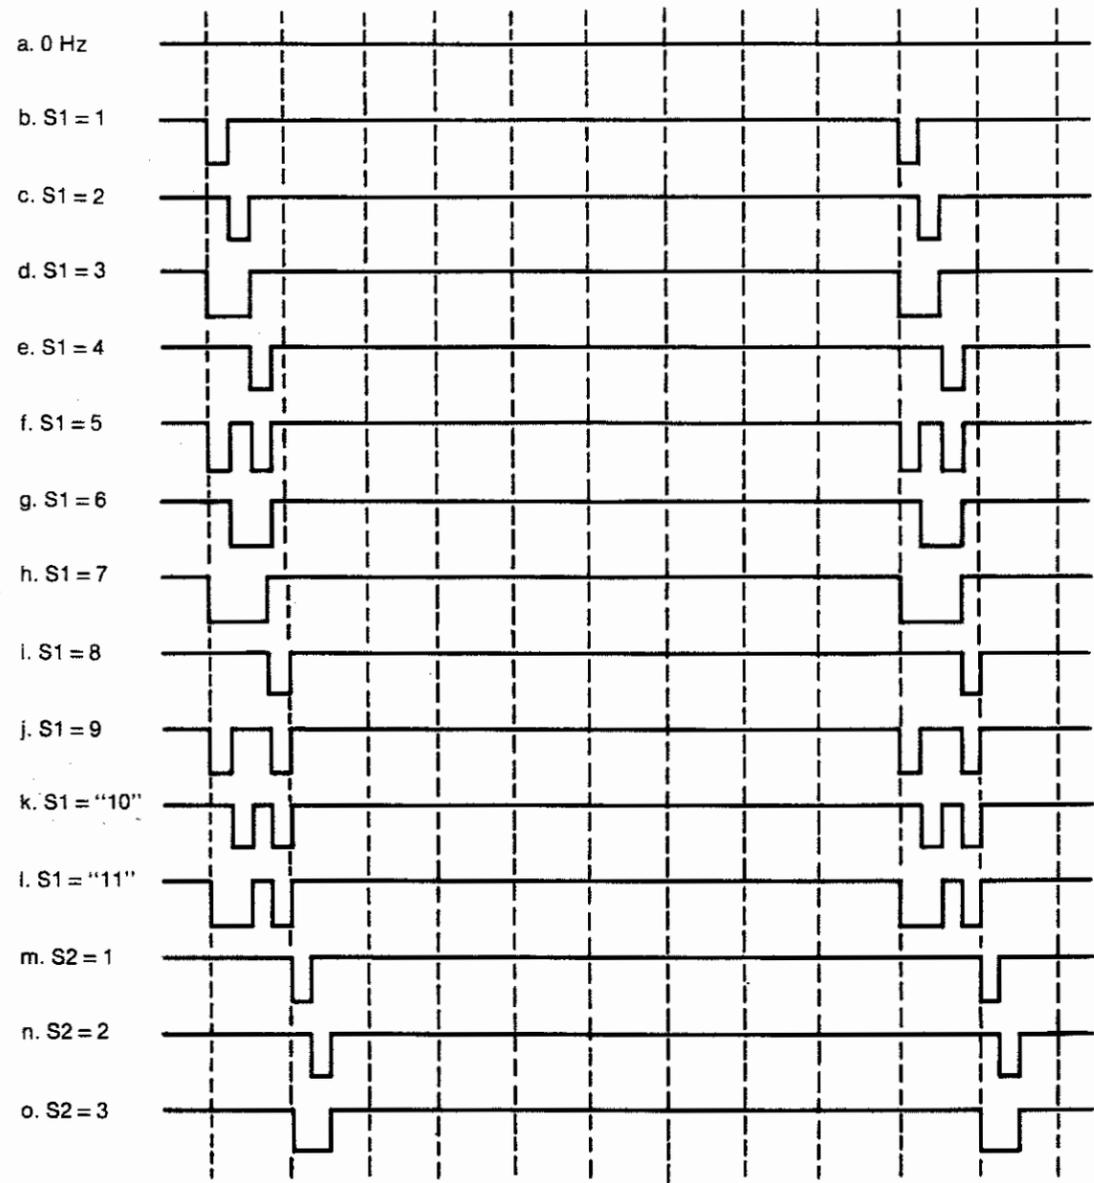

Figure 6-3. Waveform for FPD
7. Rotate S1 through its 12 positions verifying the negative-logic BCD code in the first division of FPD as described in step 6. See figure 6-3, waveforms "a" through "l". (TS-7)
8. Repeat step 7 for switches S2 through S9. See figure 6-3 waveforms "m" through "o", etc. (TS-7)
5. Adjust sweep of scope to set one full cycle of the square wave in step 3 to fill 10 horizontal divisions. See figure 6-3, waveform "a".
6. Connect Ch B probe to DAC-2 and verify waveform "b" in figure 6-3. (TS-9)
8. Display the signal on DAC-3 and compare with figure 6-3, waveform "c". (TS-9)
9. Display the signals on DAC-4 through DAC-11 and compare with figure 6-3, waveforms "d" through "k". (TS-10)